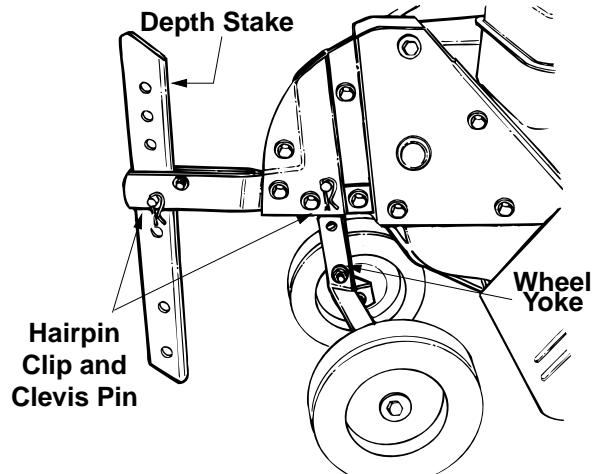

Figure 10
The tiller is shipped with the wheels adjusted such that the unit sits level. While tilling, as the tines enter the ground and the front of the tiller lowers, the wheels must be raised to level the unit, which is essential for proper engine operation. This adjustment is made by removing the clevis pin and hairpin clip from wheel yoke, raising the wheels to the desired height, and replacing the clevis pin and hairpin clip. (See Figure 10.)
2. **Depth Stake Adjustment:** The depth stake acts as a brake for the tiller and controls the depth and speed at which the machine will operate. Remove the clevis pin and hairpin clip to raise or lower depth stake. (See Figure 10.)